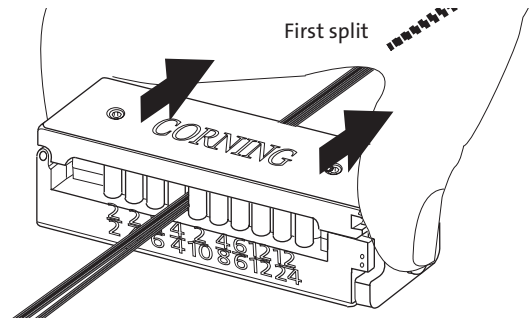

Figure 15
- Step 6:** Push in and hold the slider button on the end of the tool as you smoothly move the tool from this mark to the split made in step 3 (Figure 15).